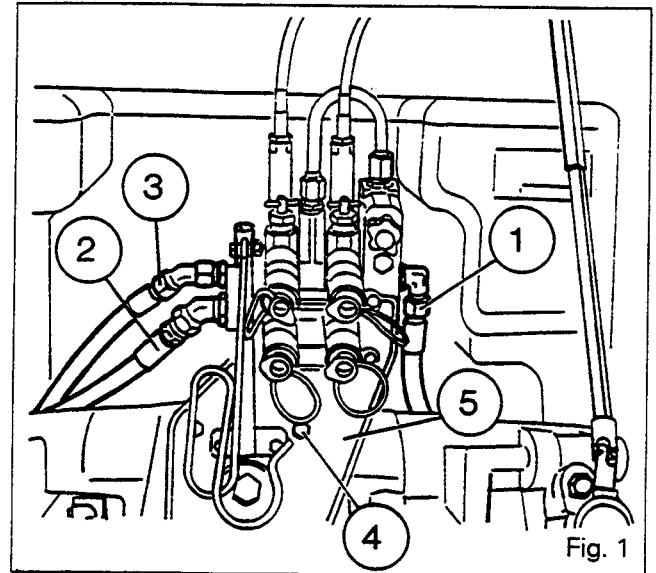

Fig. 1
1. Disconnect (Fig. 1) :
- . the auxiliary spool valve supply hose (1)
- . the supply hose of the lift valve (3)
- . the return hose (2)
2. Remove the bolts (4) of the auxiliary spool valve support (5) (Fig. 1).
17. Smear the threads of the two lower bolts (4) with Loctite 510. Fit and tighten the bolts (4) to a torque of 50-70 Nm (Fig. 1).
18. Reconnect (Fig. 1):
- . the spool valve supply hose (1)
- . the return hose (2).